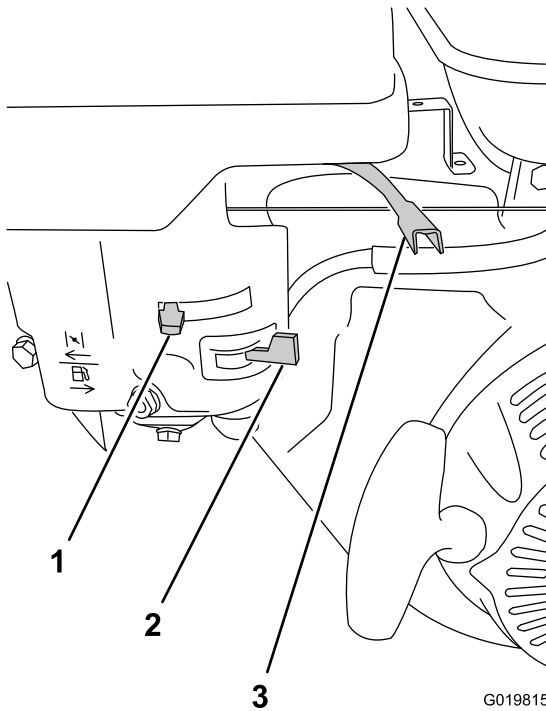

Figure 36
2. On the engine, move the throttle lever away from the MIN position, 1/3 of the way toward the MAX position (Figure 36).
3. Move the lever of the fuel valve to the ON position, all the way to the right (Figure 36).
- To start a cold engine, move the choke lever to the CLOSED position, all the way to the left (Figure 36).
1. Move the throttle lever to the SLOW (turtle) position (Figure 36).
3. Move the fuel valve to the OFF position (Figure 36) and rotate the engine On/Off switch to the OFF position.